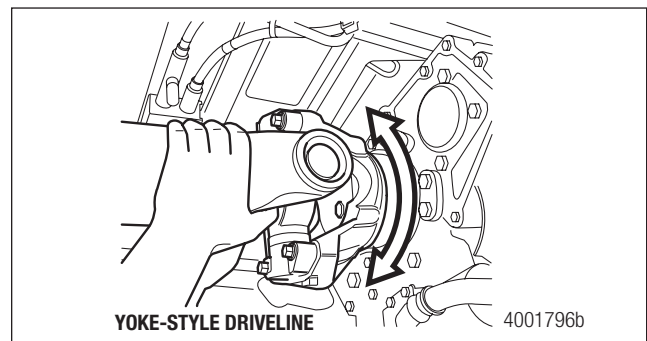
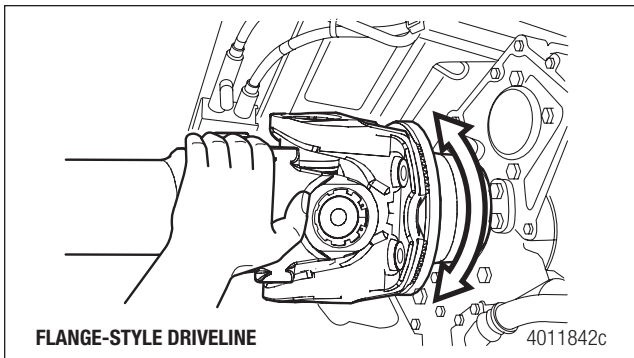

Figure 4.1
Figure 4.2
- b. Move the end yoke UP-AND-DOWN and SIDE-TO-SIDE. There shouldn't be any movement where the yoke or flange connects to the input and output shafts. Figure 4.1 and Figure 4.2.
If the input and output end yokes or flanges are not loose, check that the transmission output shaft and axle input shaft splines aren't loose at the end yoke or flange: Hold the yoke or flange with one hand and rotate it LEFT-TO-RIGHT while you check end play for radial looseness. Figure 4.1 and Figure 4.2.